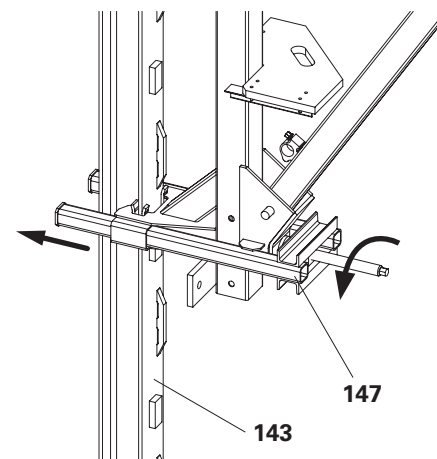

Fig. D2.06
7. Extend the Slide ACS (**147**) until the Climbing Rail ACS (**143**) swings freely and relieves the Climbing Rail ACS (**143**). (Fig. D2.06)